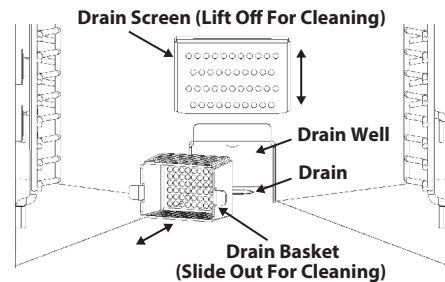

Figure 2
2. Clean any food debris from in front of and around the compartment Drain Screen (see Figure 2).
3. Lift off compartment Drain Screen and remove Screen Basket to clean any food debris from them, the Drain Well and Drain area (see Figure 2).